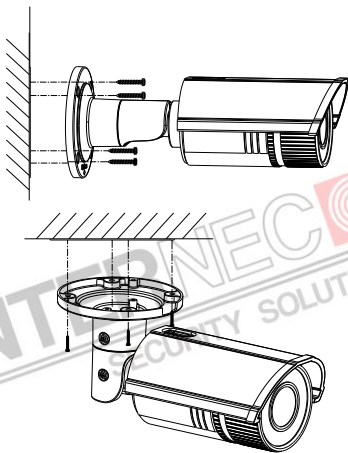

Figure 2-5 Secure the Camera
5. Secure the camera to the wall(or ceiling) with expansion screws. Refer to the Figure 2-5.